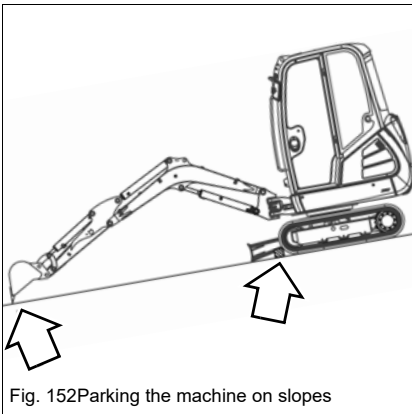

Fig. 152 Parking the machine on slopes
- Secure the tracks accordingly (for example with chocks, blocks) as shown in Fig. 152.